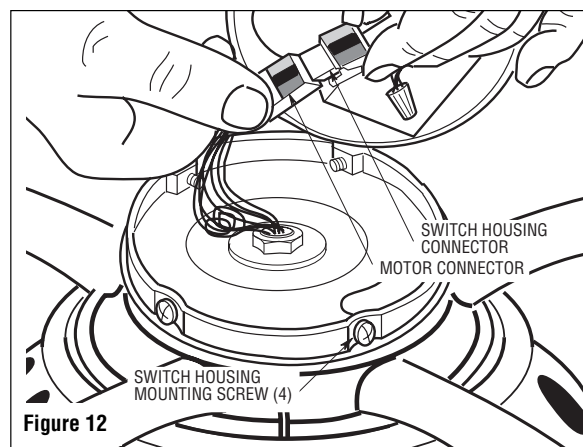

Figure 12
12. Engage the connector of the switch housing assembly with the fan motor assembly connector (Figure 12). The two connectors are keyed and color-coded and must be mated correctly (color-to-color) before they can be engaged. Make sure the connector latch closes properly.
13. Remove the four switch housing assembly mounting screws from the switch housing plate and retain for future use (Figure 12).